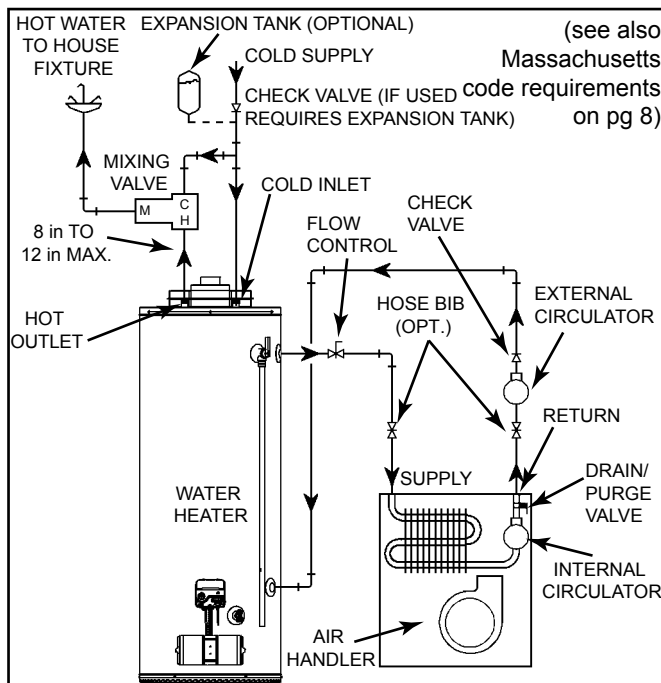
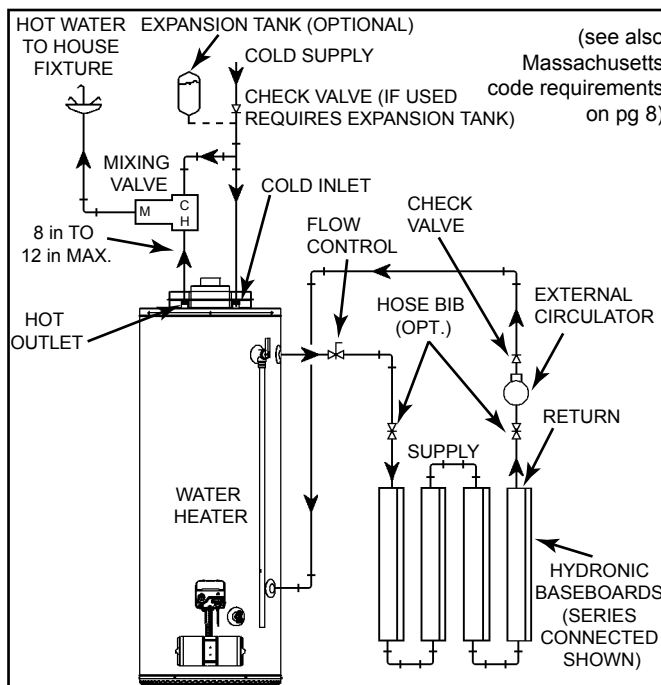

Figure 11
Figure 12
8. “Combo” Heating Systems require higher water temperatures than other applications. When the system is used to supply water for Combo Heating applications, a means, such as mixing valve, must be installed to temper the water in order to reduce scald hazard potential (see Figure 11 & Figure 12).
- A. A fan coil/air handler (Figure 11).
- B. A hydronic baseboard (finned tube) loop/In floor heating (Figure 12).